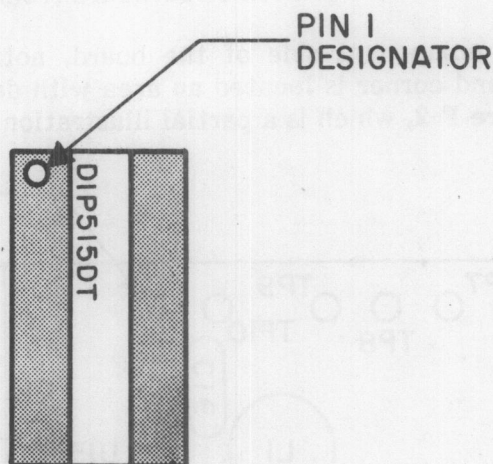

**Figure F-2. Partial Component Side View of the Synthesizer Interface Showing U15**
11. On the component side of the board, notice that in the upper right-hand corner is located an area with designator U15. (Refer to **Figure F-2**, which is a partial illustration of the board.)
13. The number 1 pin locator (on the parts mounted side of board), is shown with a square at the U15 location, as shown in **Figure F-2**.